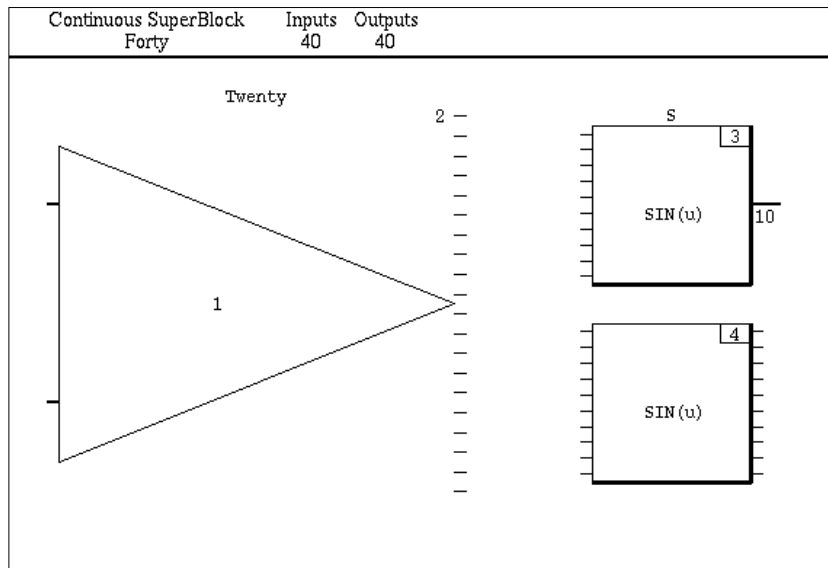

FIGURE 4-9 SuperBlock Forty Before Connections
This example showcases the connection editor, and how block labels and settings affect the appearance of the block diagram. In the first four steps you will create the simple SuperBlock Forty, shown in Figure 4-9 on page 4-36.
4. Edit the first sin block. Name it S. On the inputs tab, specify **s1(30:34)** in cell 1, and specify **s2(35:39)** in cell 6. On the display tab enable Show labels, and set the Input Pins type to Vector and the OutPut pins type to Bundle. Note that the pins are depicted as scalar because the inputs are not connected yet (see Figure 4-9). The outputs are displayed as a single thick pin; the number 10 indicates the number of pins in the bundle.